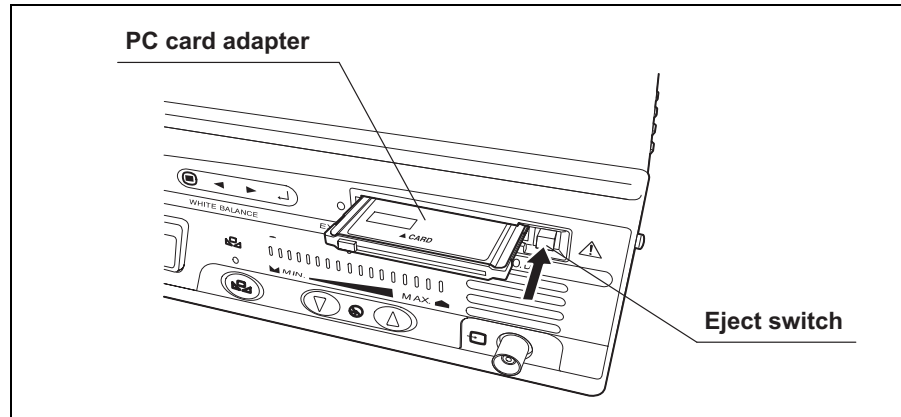

Figure 3.21
2. Hold the OTV-S7V stationary with one hand and push the eject switch again. Then, the PC card adapter is popped up (see Figure 3.21).